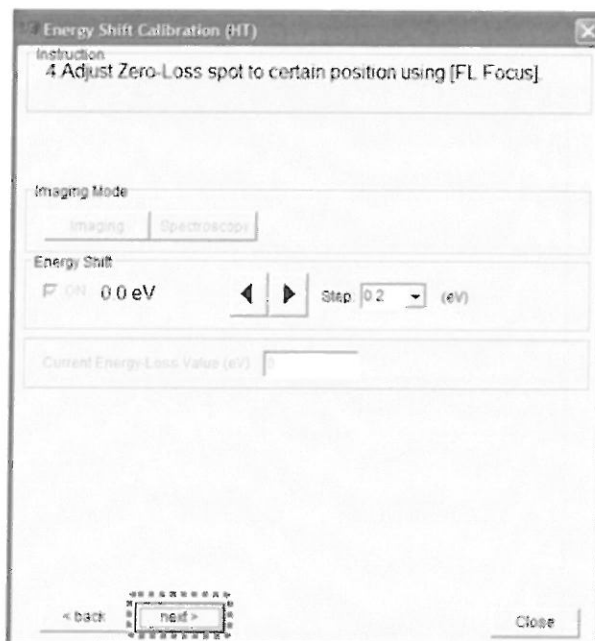

Fig. 5.40 Energy Shift Calibration (HT) - 4. Adjust Zero-Loss Spot to certain position using [FL Focus]
4. Follow "Instruction – 4. Adjust Zero-Loss spot to certain position using [FLFocus]", use the FOCUS knob (R1-⑧) to adjust the edge of the spectrum to the desired position (Fig. 5.40). After adjustment, press the **next** button and proceed to the next window.